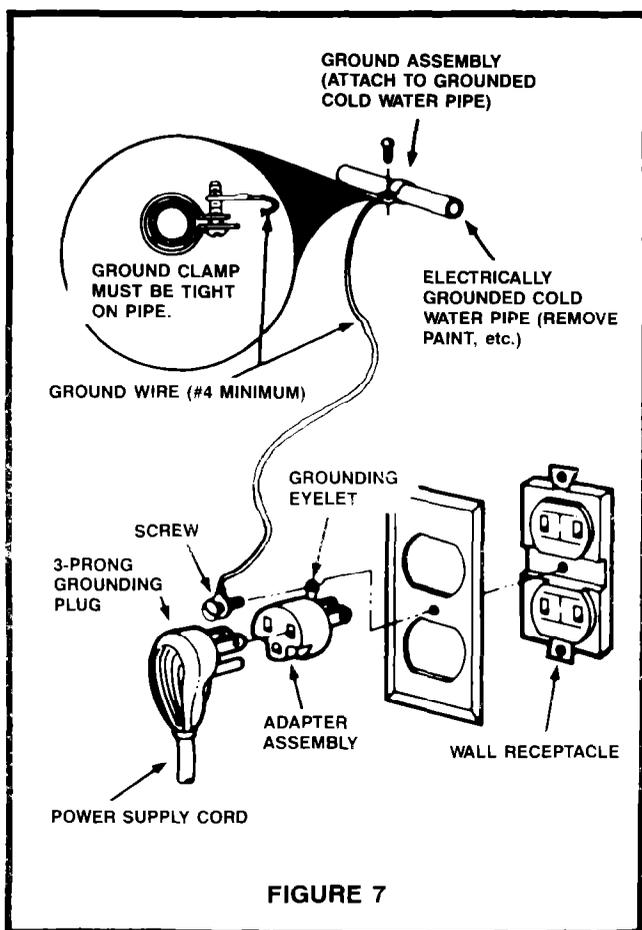

FIGURE 7
electrical inspector), a temporary adaptor may be plugged into the existing 2-prong wall receptacle to mate with the 3-prong power supply cord. See Figure 7. **THIS, HOWEVER, IS NOT RECOMMENDED.**
**NOTE:** If this is done, you must connect the grounding eyelet on the adapter to the wall receptacle cover plate screw and from this same screw, you must connect a separate copper ground wire (No. 4 minimum) to a grounded cold water pipe\*. See Figure 7. **Do not** connect to a gas supply pipe. **Do not** connect to electrical supply until appliance is permanently grounded.